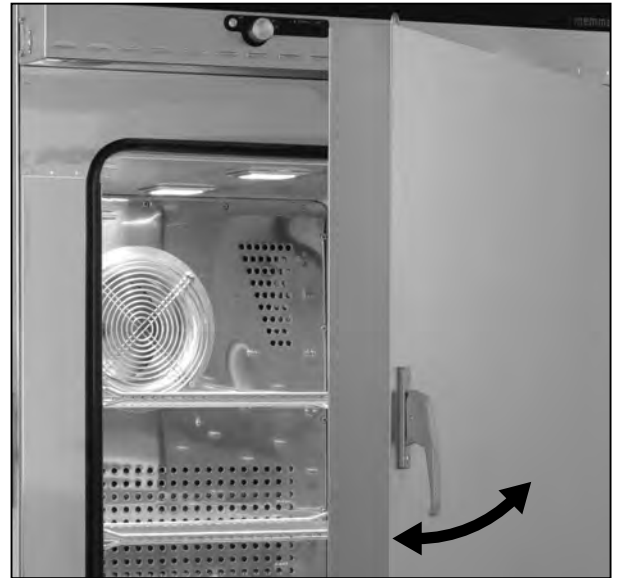

Fig. 17
- ▶ To open the door, pull the handle upwards and swing the door open (Fig. 17).